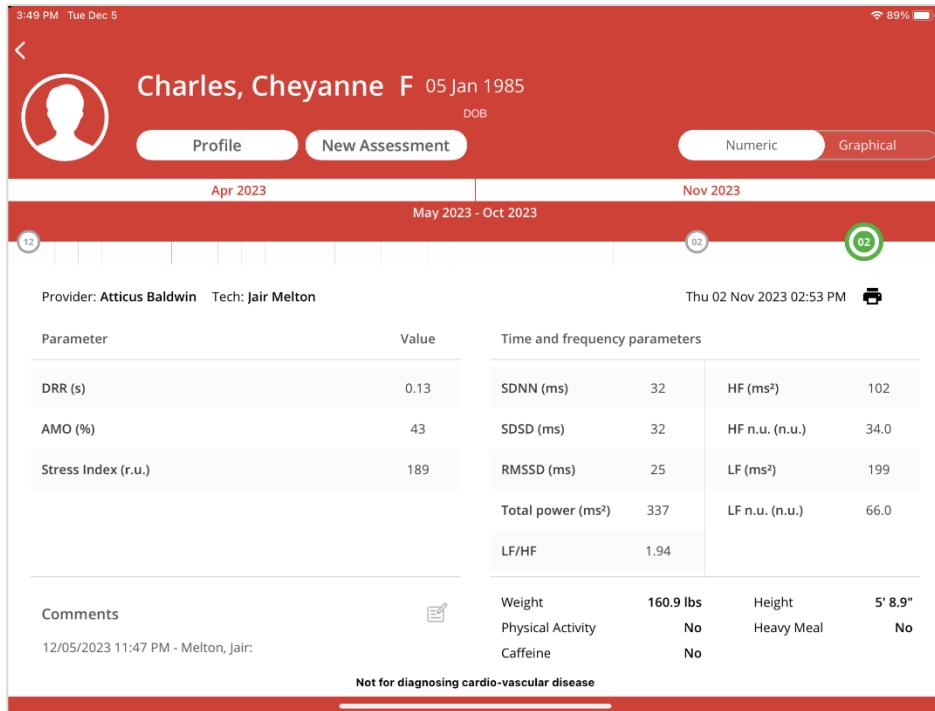

Figure 36: Comments are displayed in the comments section below with the date and time stamp as well as user name
3. Press **Done**, the comment will then be saved and displayed in the comments section (Figure 36).